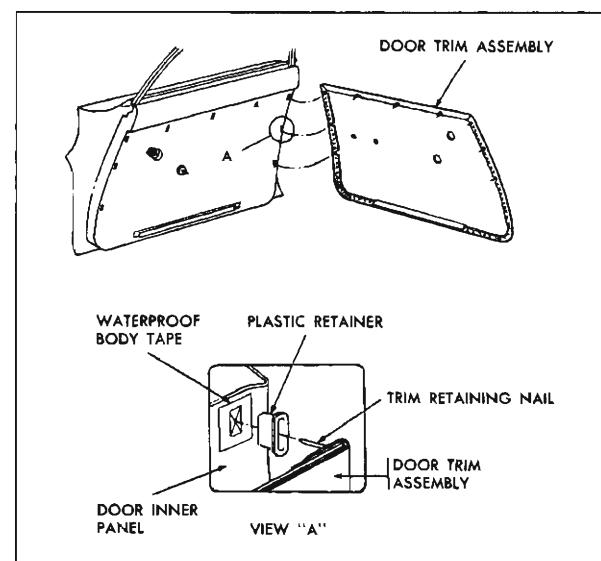

Fig. 12-3 Door Trim Installation
4. Starting at top of trim assembly, carefully insert tool J-6335, or a suitable flat-bladed tool, between door trim assembly and door inner panel at retaining nail locations and disengage nails from retainers (Fig. 12-3).